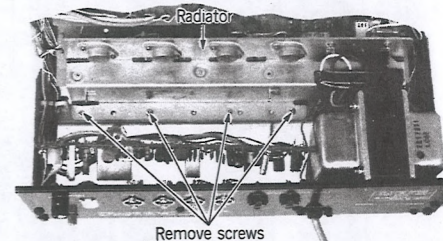

Fig. 9
3. Remove screws shown in Fig. 9, pull out the control plate slightly forward, slip the audio printed wiring board slightly backward, and the audio printed wiring board comes off together with the radiator.